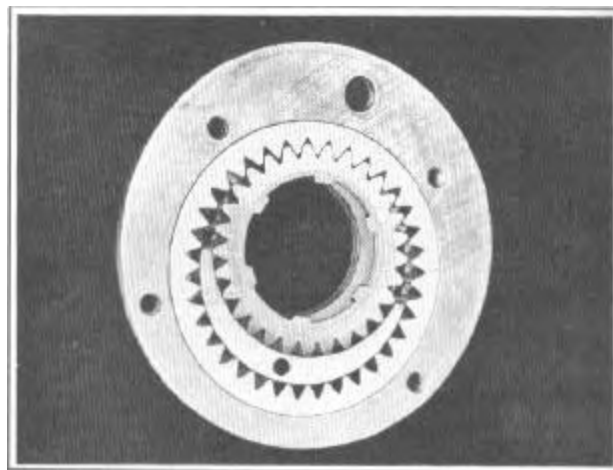

FIGURE 87
3. Remove the drive and driven gears from the pump housing, Figure 87.